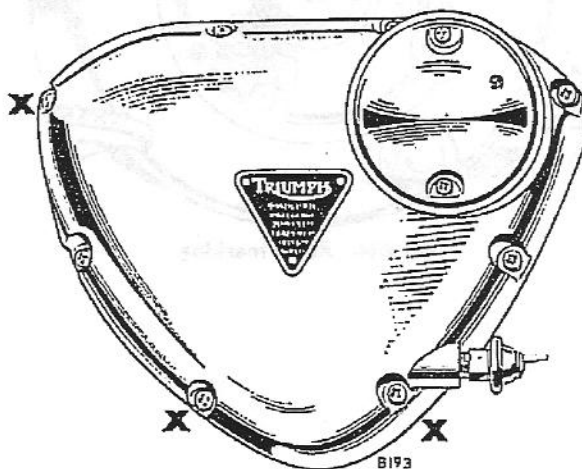

Fig. B26. Location of three long screws in timing cover
**NOTE:** The three longer screws should be fitted in the holes marked "X" in Fig. B26.